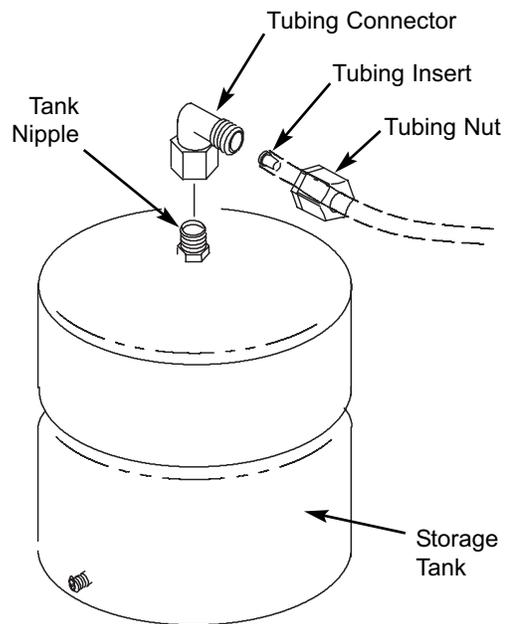

FIG. 14
1. Apply of thread sealing tape (2 wraps clockwise) to the threads on the nipple at the top of the tank. See Fig 14.
2. Locate the tubing connector. See Fig. 14. Tighten the tubing connector onto the tank nipple 7-8 full turns, being careful not to cross thread or overtighten.